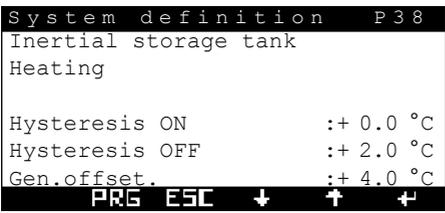

Fig. 5-21
N.B.: If external probe use is enabled it is possible to construct the climatic curve (see example heating curve Fig. 5-21) for heating and cooling each individual zone.